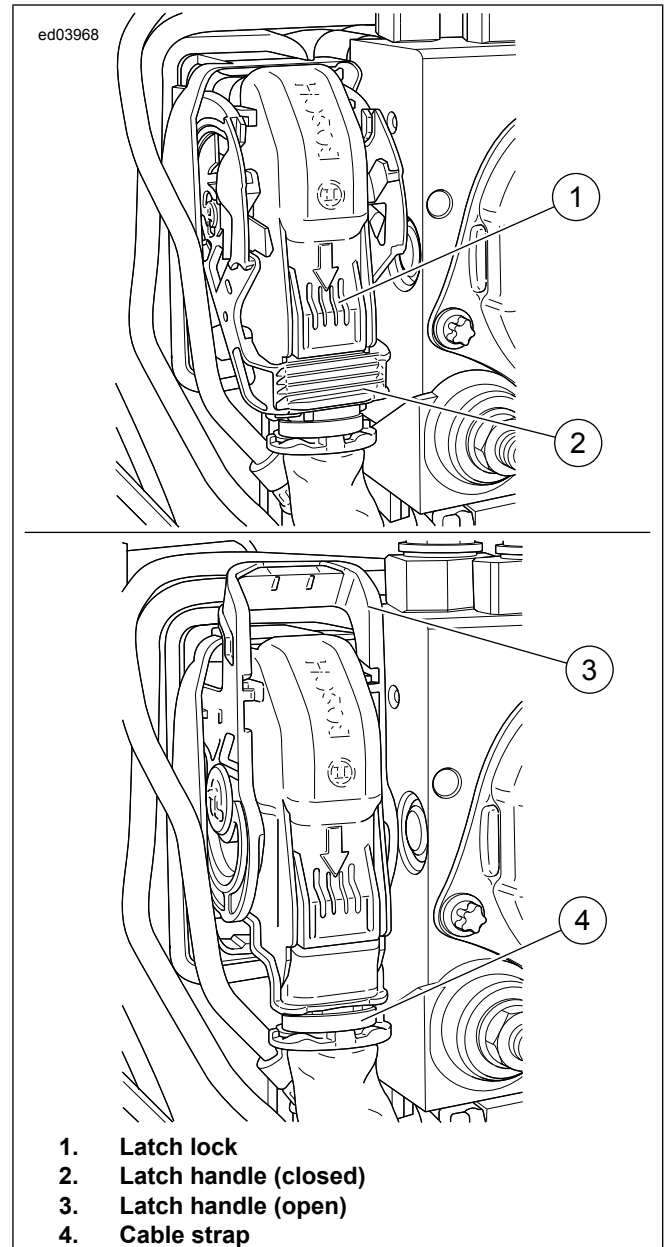

Figure B-1. Bosch BTC Sealed Connector
1. See Figure B-1. While pressing latch lock, lift latch handle.
1. See Figure B-1. Remove and discard cable strap.
6. See Figure B-1. Install new cable strap.